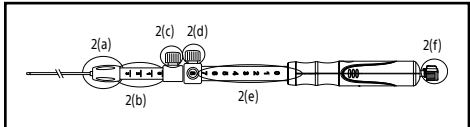

Figure 2.
- Confirm that the needle is fully retracted and that the needle adjustment lock (Figure 2(d)) is secure in the zero position (Figure 2(e)).
- Determine the appropriate sheath length relative to the length of the echoendoscope. Use the sheath adjustment lock (Figure 2(c)) to set the desired length of the sheath and lock it in place. Turn the sheath adjustment lock clockwise to lock the sheath in place. The distal end of the sheath should be visible on the endoscopic image.
Note: The reference numbers and markings on the sheath adjust gauge (Figure 2(b)) are intended as reference only.
- Continue to advance the device until it exits the echoendoscope and the sheath is visible in the endoscopic image. Tighten the luer attachment (Figure 2(a)) by turning clockwise to attach the device to the working channel port of the echoendoscope.
Note: If it is necessary to adjust the sheath length, loosen the sheath adjustment lock (Figure 2(c)) and reposition it to the appropriate reference point.
- Adjust the needle penetration depth to the desired position using the needle adjustment lock (Figure 2(d)). To control the depth of needle penetration to the target site, loosen the needle adjustment lock by turning the knob counterclockwise. Align the needle adjustment lock with the appropriate reference number on the device handle. Lock in place by turning the needle adjustment lock clockwise.
Note: The reference numbers on the needle depth gauge (Figure 2(e)) are intended as reference only. The reference numbers represent needle extension (in centimeters) when the device is in a straight position.
- Remove the stylet (Figure 2(f)) from the aspiration port of the device by gently loosening and pulling it from the device handle.
Note: The stylet can be coiled and clipped together using the clip mechanism on the stylet cap (Figure 2(f)). The stylet should be retained for additional needle passes during the same procedure.
- Connect the supplied syringe to the aspiration port (Figure 2(f)) on the device handle.